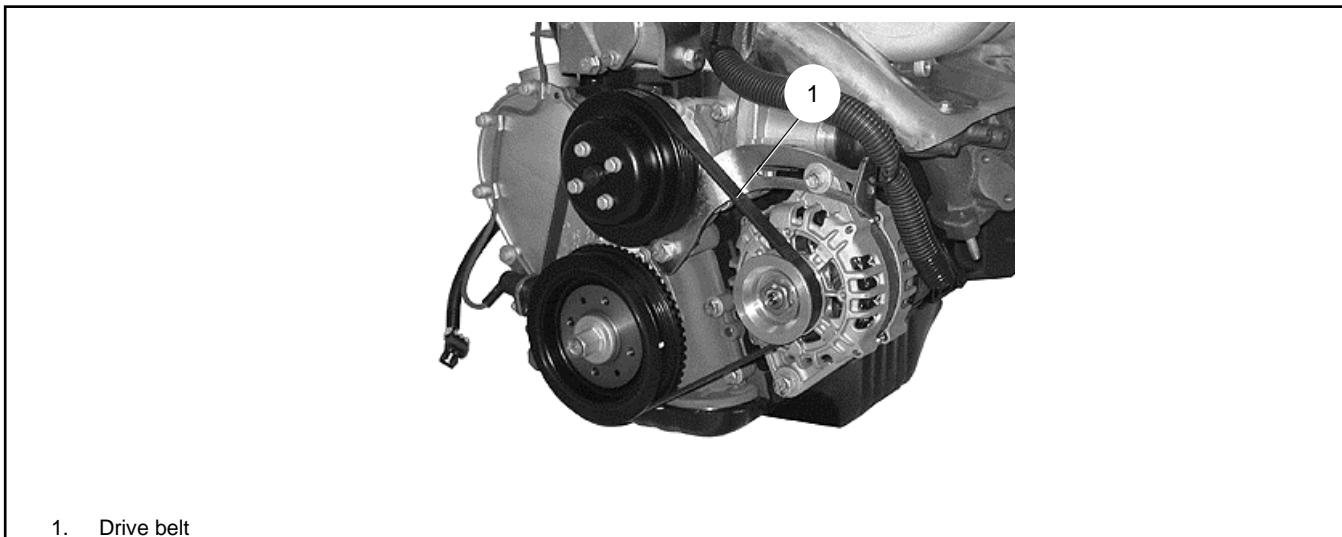

Figure 35 Drive Belt Location
2. Locate the drive belt. See Figure 35.